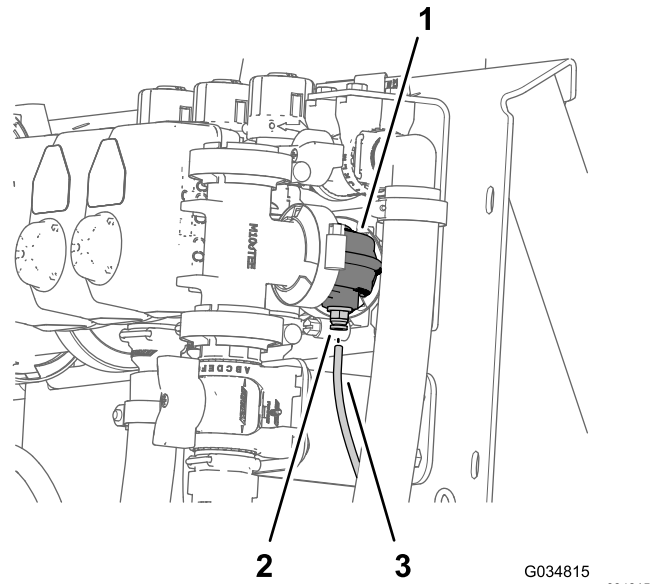
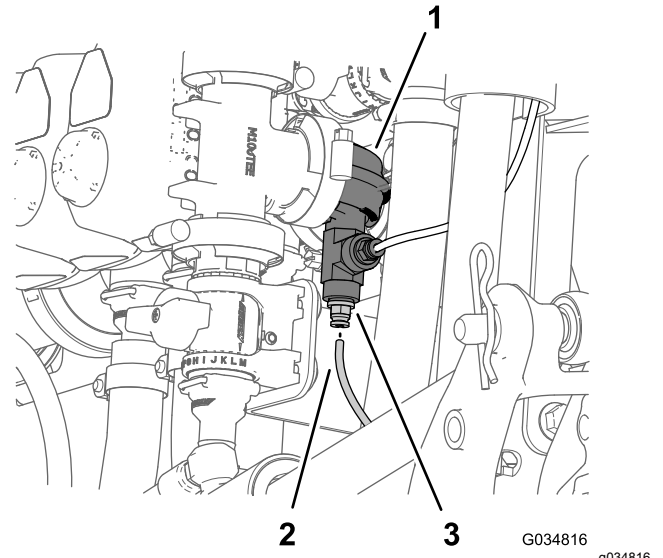

Figure 12
Figure 13
1. Press in the collar for the tube coupler in the 90° elbow of the right boom-section valve (Figure 12 or Figure 13).
2. Pull the pressure-sense tube for the dash pressure gauge out of the tube coupler (Figure 12 or Figure 13).